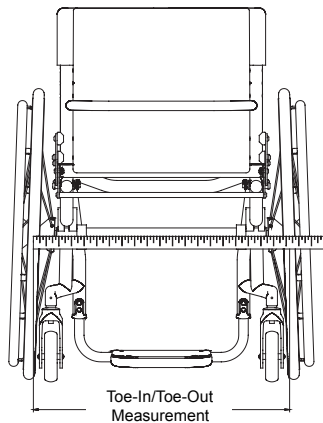

Figure 78
8. Measure the distance between the left and right tires at the rear reference marks made in step 6. See Figure 78.